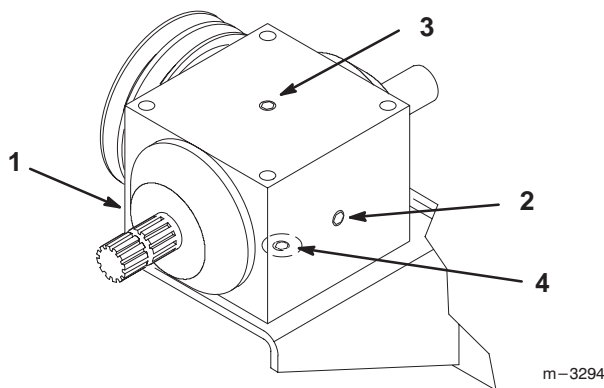

Figure 21
2. If level is low, remove top plug and add until level is up to side plug in gearbox. (Fig. 21).